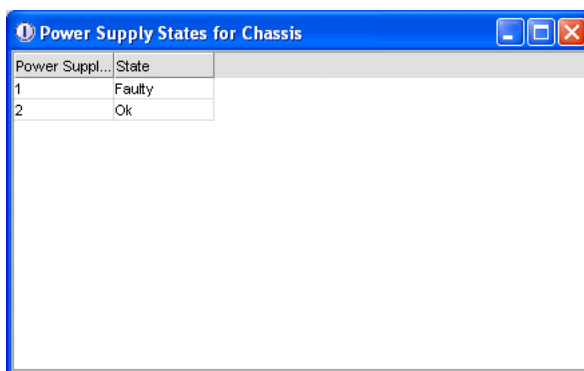

FIGURE 41 Power States window
2. Click **Power** on the Switch View. The detailed power supply states are displayed (Figure 41).